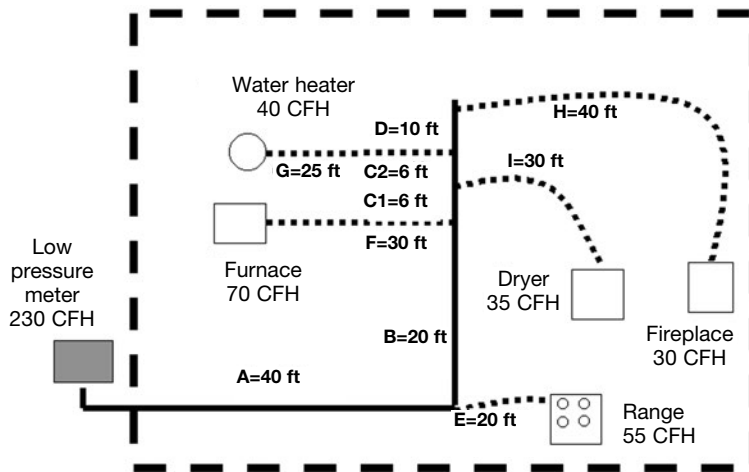
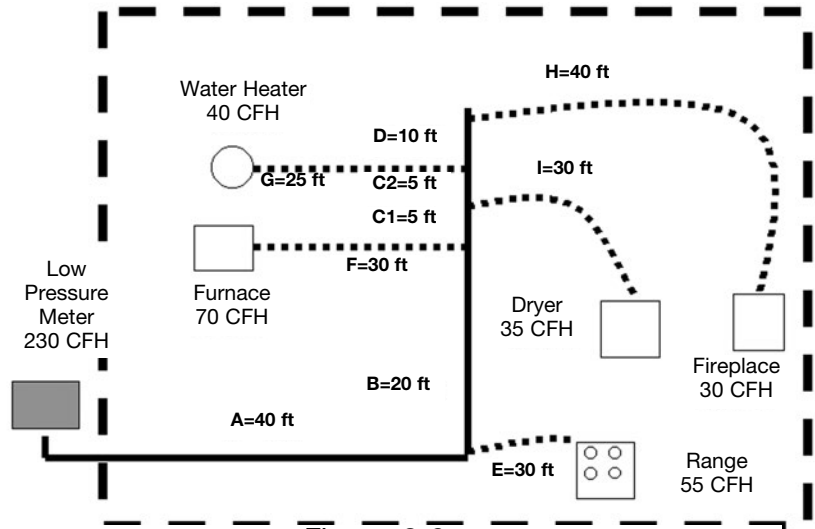

Figure: 3-6
Figure: 3-9
1. The system presented in Figure: 3-6 is a typical residence with 5 appliances. The supply pressure is 7 inches w.c. The allowable drop is 1.0 inch w.c. total.
- The system presented in Figure: 3-9 is identical to that in Figure: 3-6 a single-family installation with 5 appliances. Low pressure 6-7 inches and a pressure drop of 0.5 inches water column. **NOTICE:** in Example: 6 this system was sized using the longest run method. Here we will use the sum of pressure loss method discussed in section 3.2D.